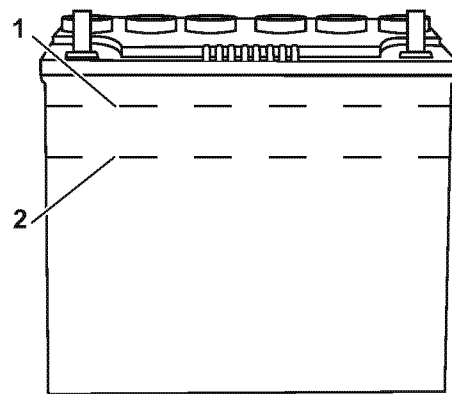

Figure 15
6. Carefully fill the battery with electrolyte up to the upper level line (1, **Figure 15**).
8. After letting battery stand, top off battery with electrolyte, if needed, so it is at the upper level line (1, **Figure 15**). Battery level should never be below the lower level line (2, **Figure 15**).